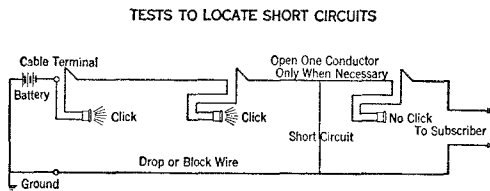

Fig. 11
4.02 In locating a low resistance short circuit in the drop or block wire plant first isolate the fault to a particular portion of the wire. To do this disconnect one side of the line at various convenient points such as at binding posts, bridging connectors or protectors and connect the test set in the line. (See Figure 11.)